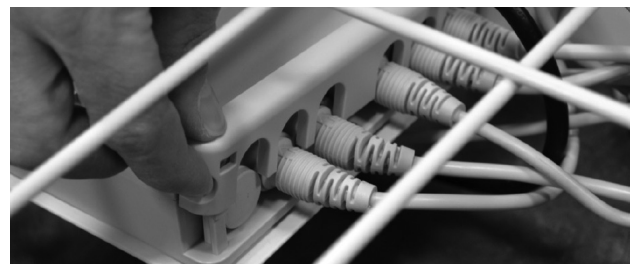

Figure 3
6. Lift the control box cable cover on the side furthest from the mains power cable, as shown in Figure 3.